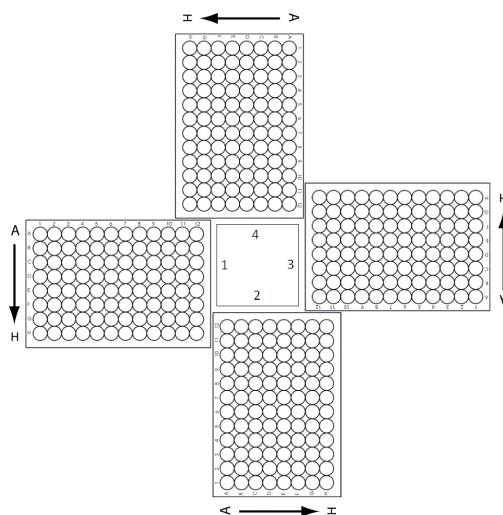

Figure 3 Agilent Labware MiniHub plate orientation. For Thermo Scientific reservoirs, place the notched corner facing the center of the hub.
- 9 Load the Labware MiniHub according to Table 13, using the plate orientations shown in Figure 3.